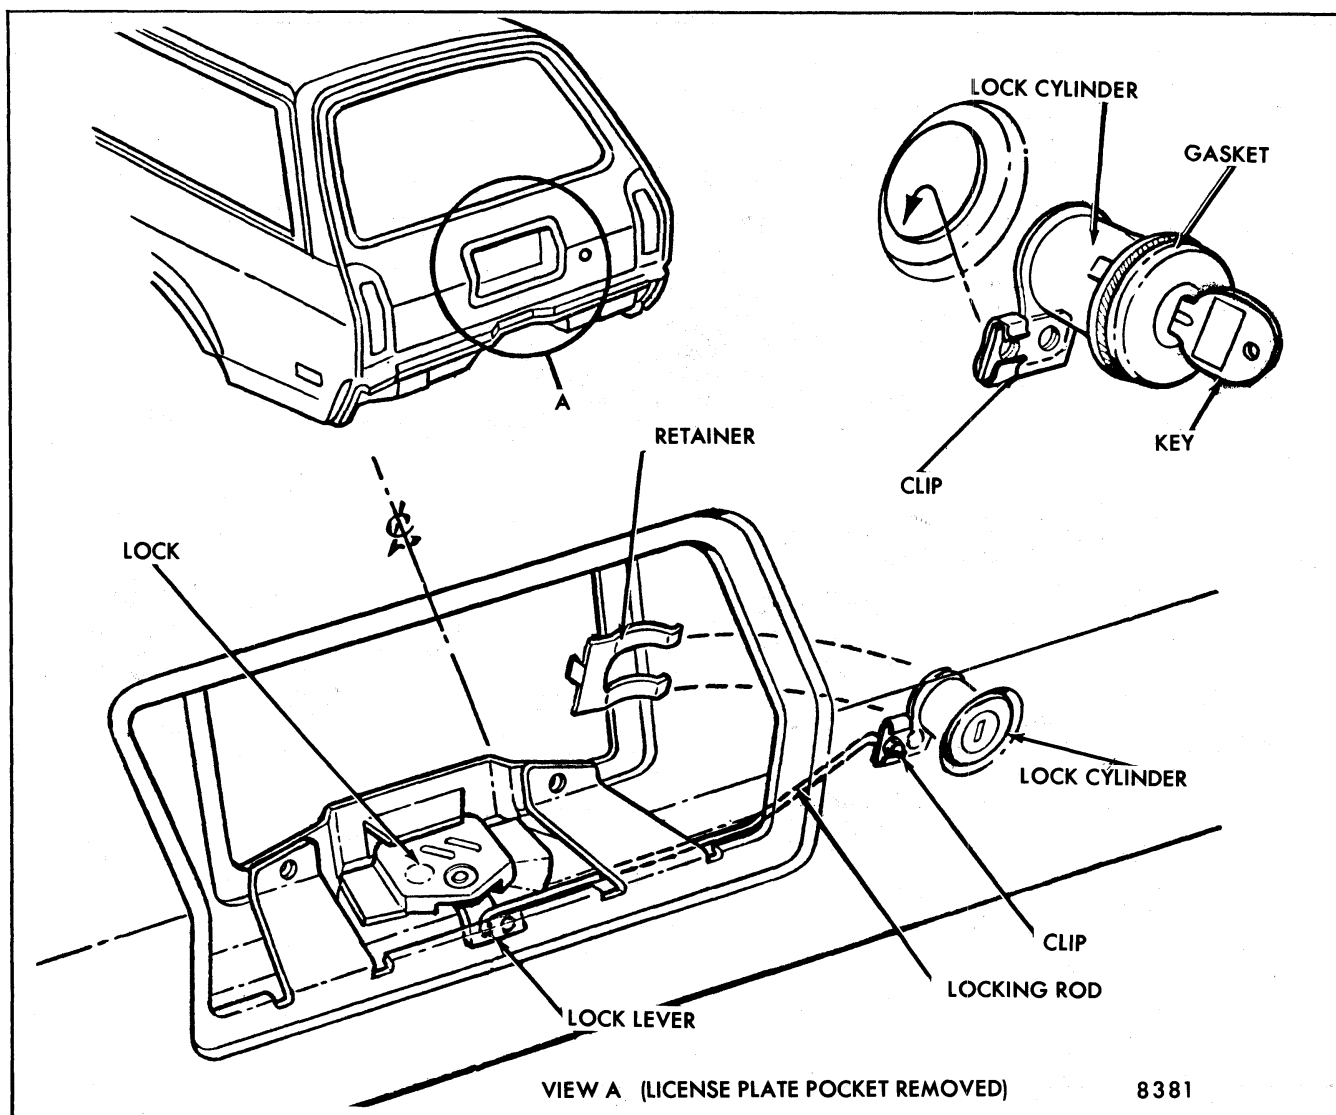

Fig. 7-77-Lock Cylinder Installation - "H-15" Styles
2. Working through access hole, remove locking rod from lock cylinder (Fig. 7-77).